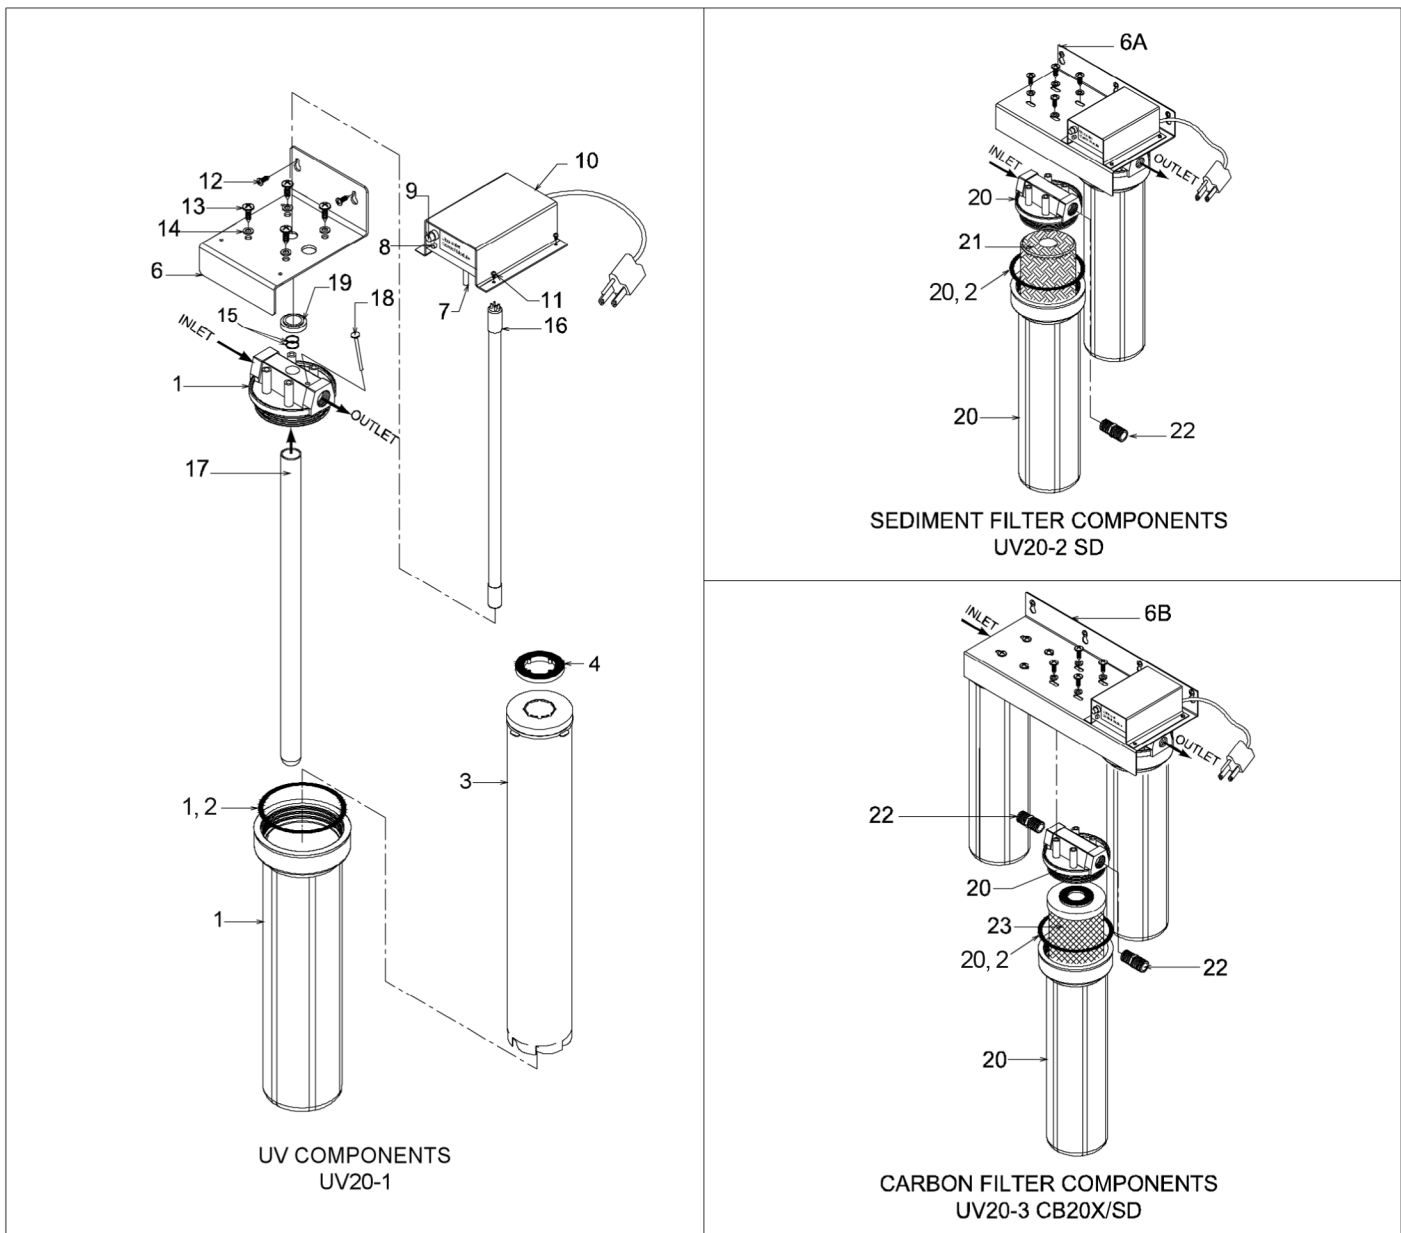

Figure 2 Exploded Schematic, UV UV20 Series
2. Verify Stainless Steel Channeling Sleeve (Item 3) and Sleeve Gasket (Item 4) are in sump as shown in Figure 2.
CAUTION: Verify that inlet and outlet ports are connected to appropriate inlet/outlet pipes (see Figure 2).